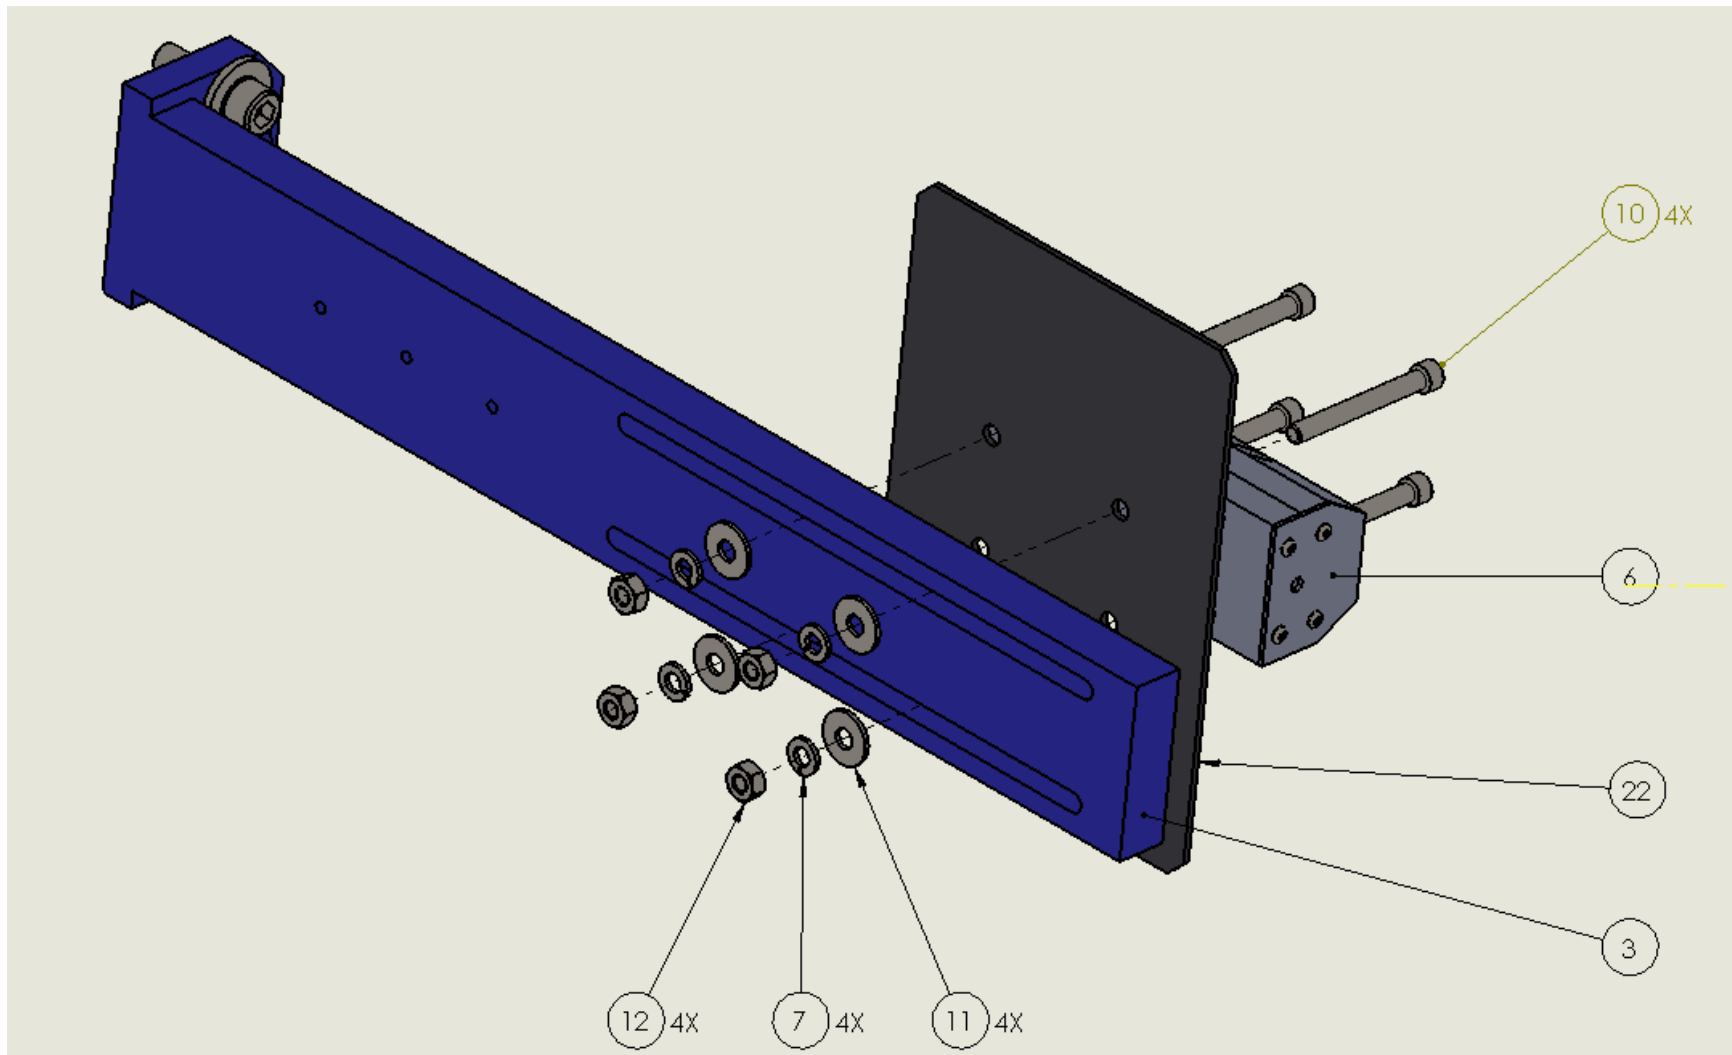

Figure 8 – Assembly of TL102AL light into side mounting bracket with heat sink
9. Install (2) side lights as shown in figure 8.